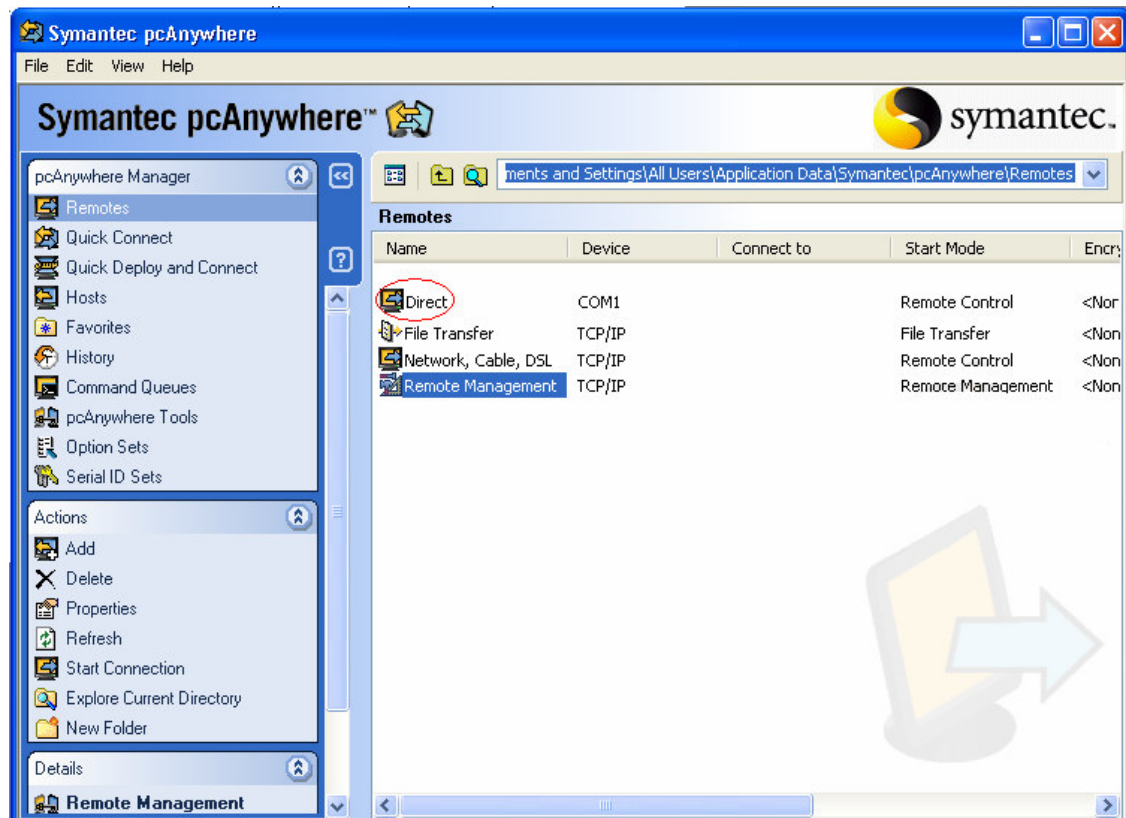

Figure 46: pcAnywhere Selection Screen
6. A typical example of remote monitoring is shown in Figure 46.